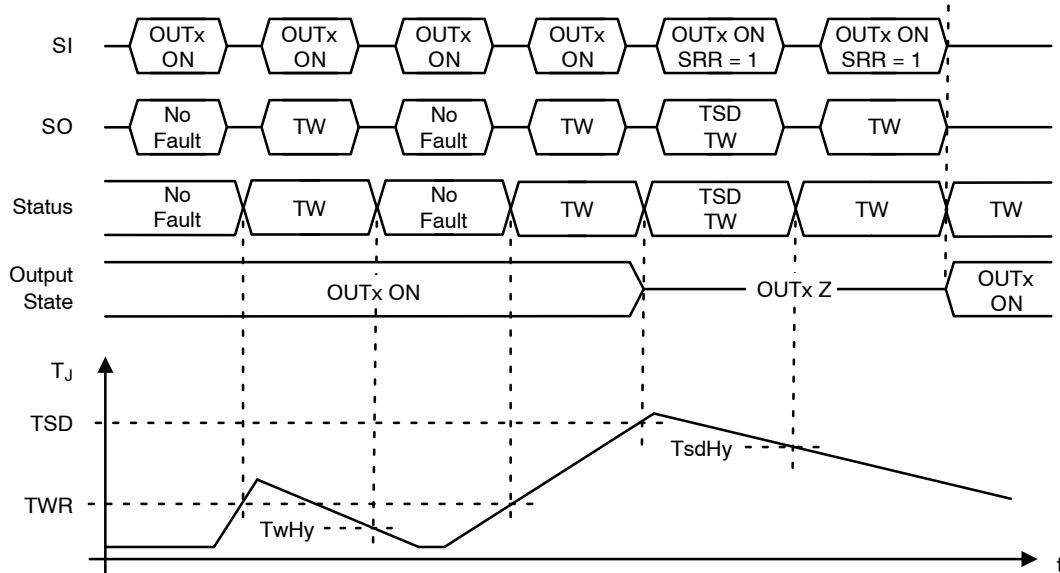

Figure 25. Thermal Warning and Shutdown Timing
Thermal warning (TW) and thermal shutdown (TSD) detection and control are provided for each half-bridge by monitoring the driver pair's thermal sensor. Thermal hysteresis is provided for each of the warning and shutdown functions to ensure clean detection transitions. Software polling of the TW bit allows for avoidance of thermal shutdown since TW notification precedes TSD notification. Thermal warning and shutdown timing is shown in Figure 25.